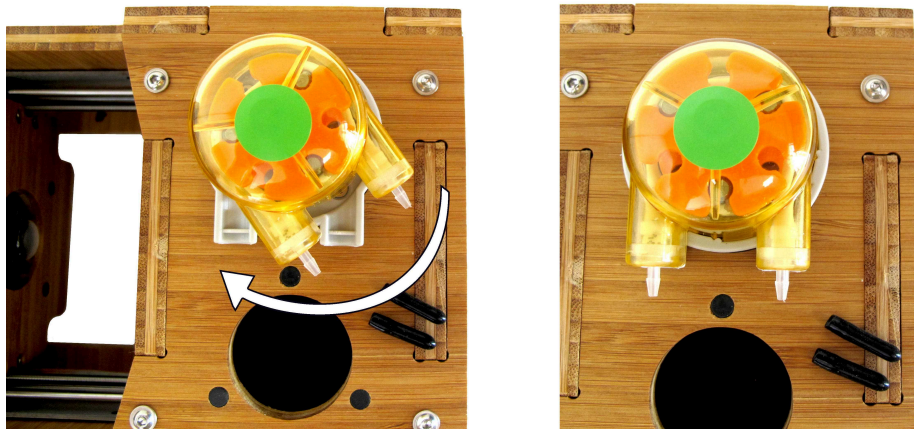

Figure 4: How to install the pump
3. To install it again, place it in the position shown in the image below until it clips, push it in and turn it clockwise until it snaps into the white socket (Fig.4).